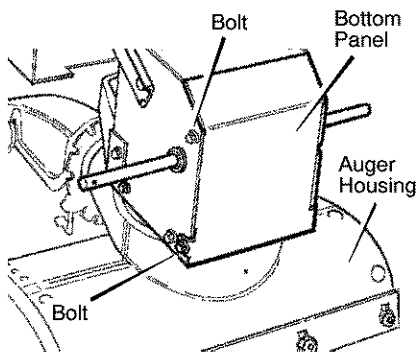

Figure 25
2. Loosen the **bolts** on each side of the **bottom panel** (see Figure 25).
- Install the **bottom panel** (see Figure 25).
13. Install the **bottom panel** (see Figure 25).